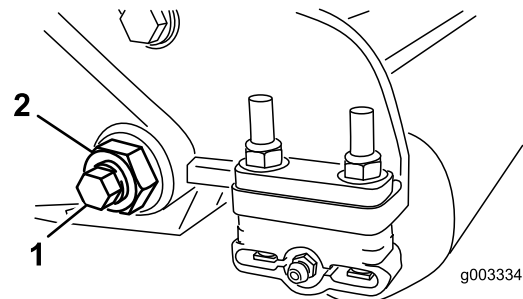
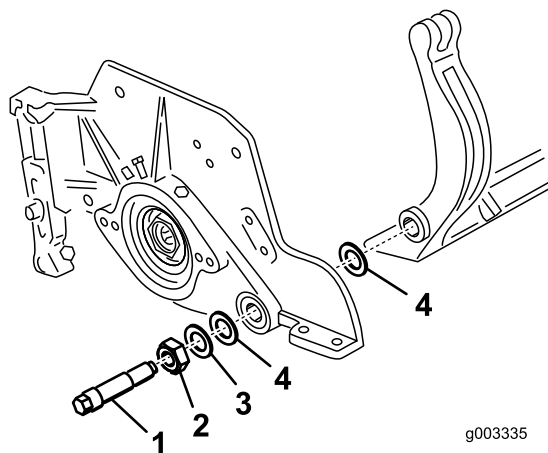

Figure 2
Figure 3
5. On each side of the machine, loosen the lock nut securing the bedbar bolt (Figure 2).
(Figure 2). Account for 2 nylon and 1 stamped steel washers on each end of bedbar (Figure 3).
9. Secure the bedbar to each side plate with the bedbar bolts (nuts on bolts) and 6 washers. A nylon washer is to be positioned on each side of side plate boss. Place a steel washer outside each of the nylon washers (Figure 3). Torque bedbar bolts to 27-33 ft.-lb (37-45 N-m). Tighten locknuts until the outside steel washer stops rotating and end play is removed but do not overtighten or deflect side plates. Washers on inside may have a gap.